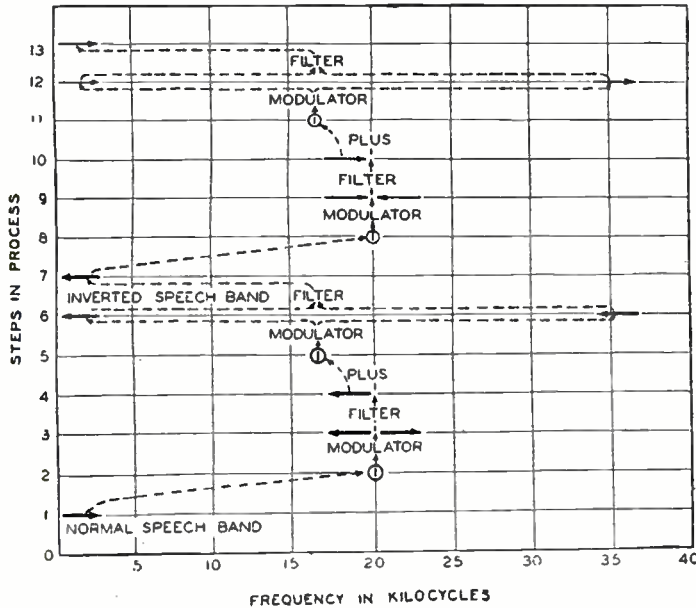

Fig. 2
The various changes undergone by the sound-frequencies in the "inversion" process may be readily seen from Fig. 2, in which are shown all the steps from the time the original frequencies are superimposed upon the first modulating frequency until they are "inverted," and then "re-inverted" back to the normal sounds. At the left of the diagram are the various processes numbered; and along the bottom are indicated the frequencies at which the processes occur. The arrows pointing to the left indicate that the frequencies at that particular stage are "inverted," and those pointing to the right show the opposite to be true. The normal speech in No. 1 (a band of frequencies 100 to 2900 cycles wide) is impressed on a frequency of 20 kilocycles at No. 2 (20,000 cycles indicated by (I), and produced by an oscillator) which it modu-
The process for reinverting these audible frequencies back again into understandable speech is carried out in exactly the same way as in the inversion. (See steps No. 8-13 in Fig. 2.)
Fig. 2 is a simplified sketch of an oscillograph galvanometer. Essentially, it consists of a single loop of wire, placed between the poles of a permanent magnet, which supports a small mirror. This part of the galvanometer is called the vibrator element. A ray of light is focused upon the mirror and reflected on a moving photographic film. When no current is passing through the vibrator-element conductor, the reflected beam of light causes a straight line to be recorded on the film. As soon as a current is sent through the vibrator element, one wire, A, will move in a direction opposite to that of wire B, causing a rocking motion of the mirror and of the beam of reflected light. Thus, any change in the current impressed on the input leads causes a corresponding shift in the position of the spot of light on the film. This, then, affords a means for recording, photographically, an electrical current. Fig. C shows a close-up view of an oscillograph's vibrator element. A and B are the fine wires forming the loop; C, the tiny mirror; D, one of the supporting bridges; and E, the roller for equalizing the tension on the wires.